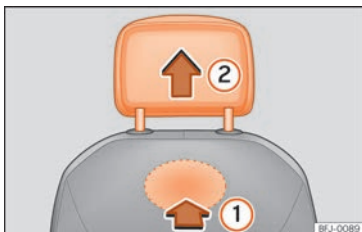

Fig. 96 Front head restraint: removal.
- To unlock it, look for the ratchet on the bottom of the backrest and press in the direction of the arrow >>> Fig. 96 ①.
- Remove the head restraint in the direction of the arrow ②.